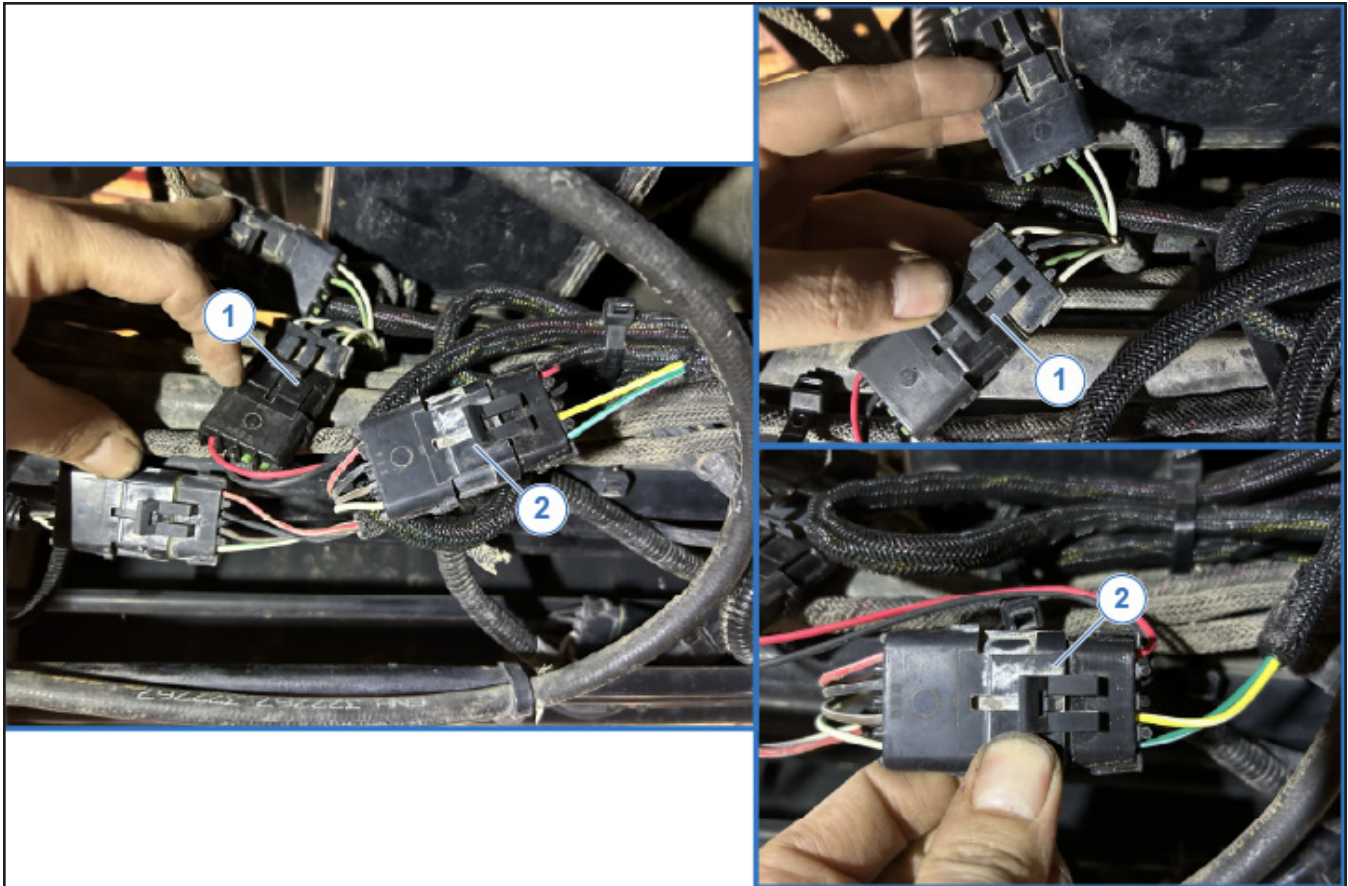

Figure 8: C517 Connector
15. Locate the Remote/AIM interface connector C517 (Figure 8, Item 1) and disconnect it.
16. Plug the appropriate Chassis harness connectors (Figure 8) into each of the disconnected plugs.
4-Pin Plug (Figure 8, Items 1)
4-Pin Receptacle (Figure 8, Items 2)